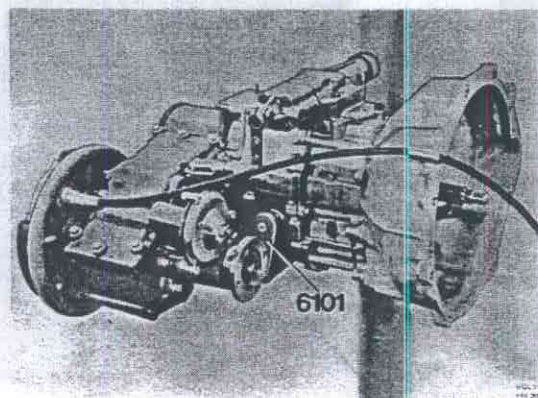
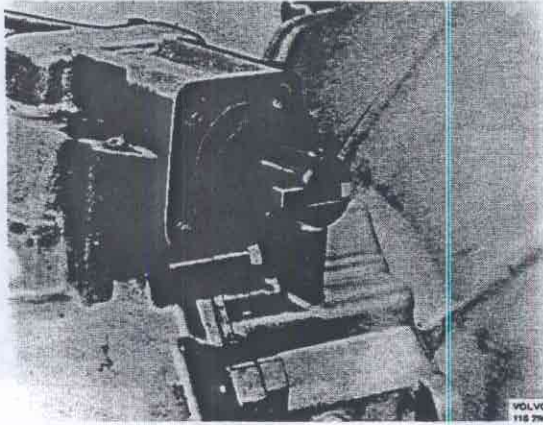

Fig. 43-46. Fixing gearbox on stand
Fig. 43-49. Tube pin in selector shaft
2. Remove the cover on the left-hand side of the gearbox and the gearbox filler plug. Fit fixture 6101 on the gearbox, see Fig. 43-49. Secure the gearbox on a reconditioning stand, see Fig. 43-46.
6. Remove the tubular pin from the selector shaft, Fig. 43-49 and remove the lug. Remove the circlip holding the selector fork.